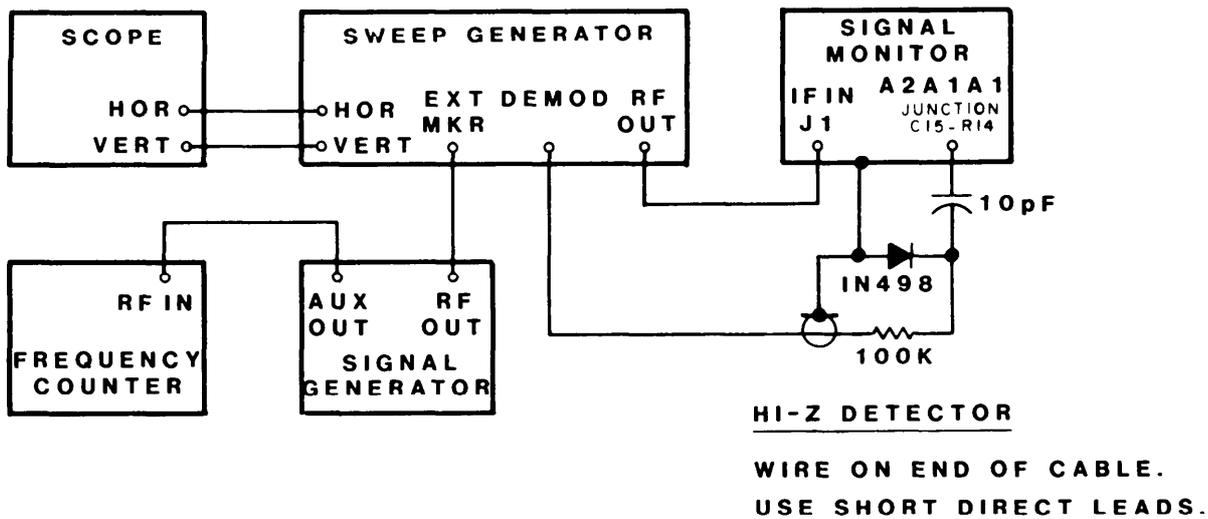

Figure 4-7. Test Setup, 21.4 MHz IF Amplifier Sweep Alignment
- (1) Connect the equipment as shown in Figure 4-7. Solder the hi-Z detector directly to the junction of C15 and R14 on the input amplifier board.
- (2) Tune the signal generator to 21.3 MHz, CW, at a level producing a convenient marker.
- (3) Tune the sweep generator center frequency to 21.4 MHz, at a level of -25 dBm (12 mV). Establish a sweep width of about 5 MHz.